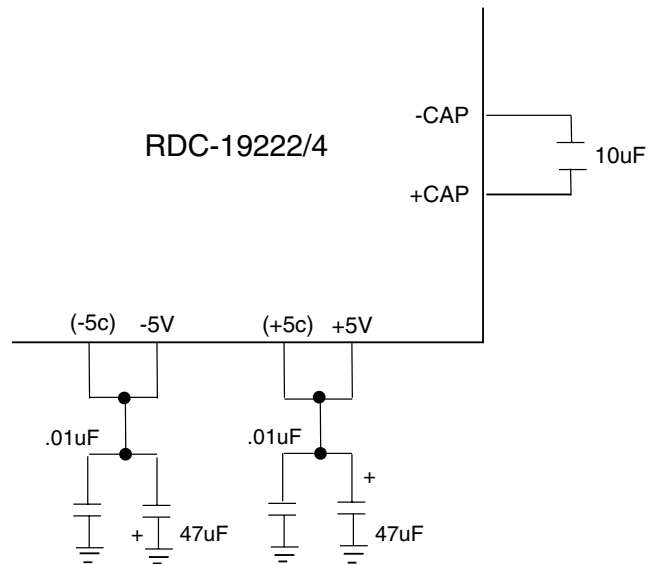

FIGURE 5. -5V BUILT-IN INVERTER
These versions are capable of +5V only operation. It accomplishes this with a charge pump technique that inverts the +5V supply for use as -5V, hence the +5V supply current doubles. The built-in -5 V inverter can be used by connecting pin 2 to 26 (11 to 16)*, pin 17 to 22 (20 to 40)*, a 10 $\mu\text{F}/10 \text{ Vdc}$ capacitor from pin 23 (17)* (negative terminal) to pin 25 (19)* (positive terminal), and a 47 $\mu\text{F}/10 \text{ Vdc}$ capacitor from -5 V to GND. The current drain from the +5 V supply doubles. No external -5 V supply is needed (SEE FIGURE 5).